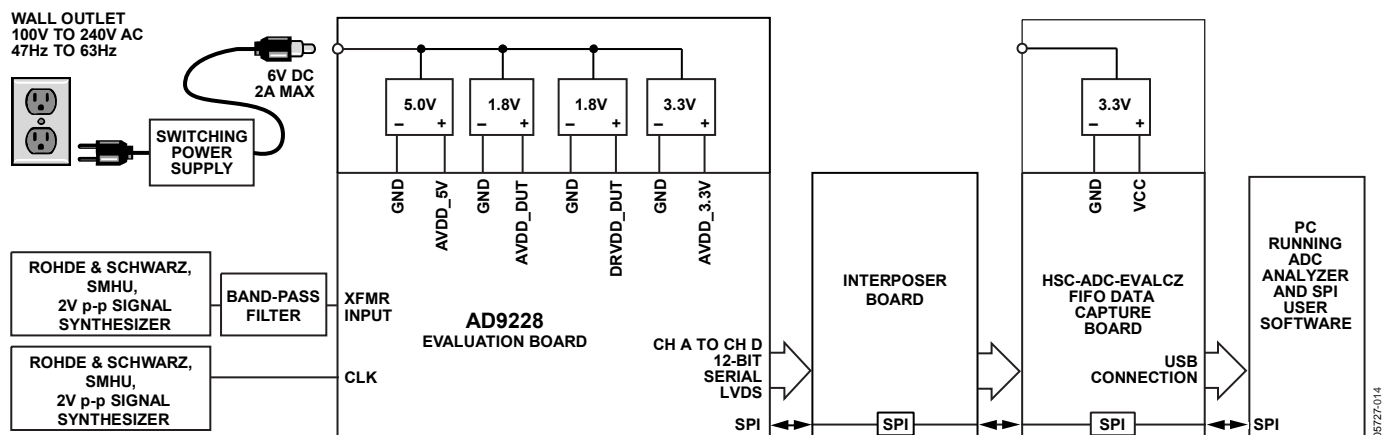
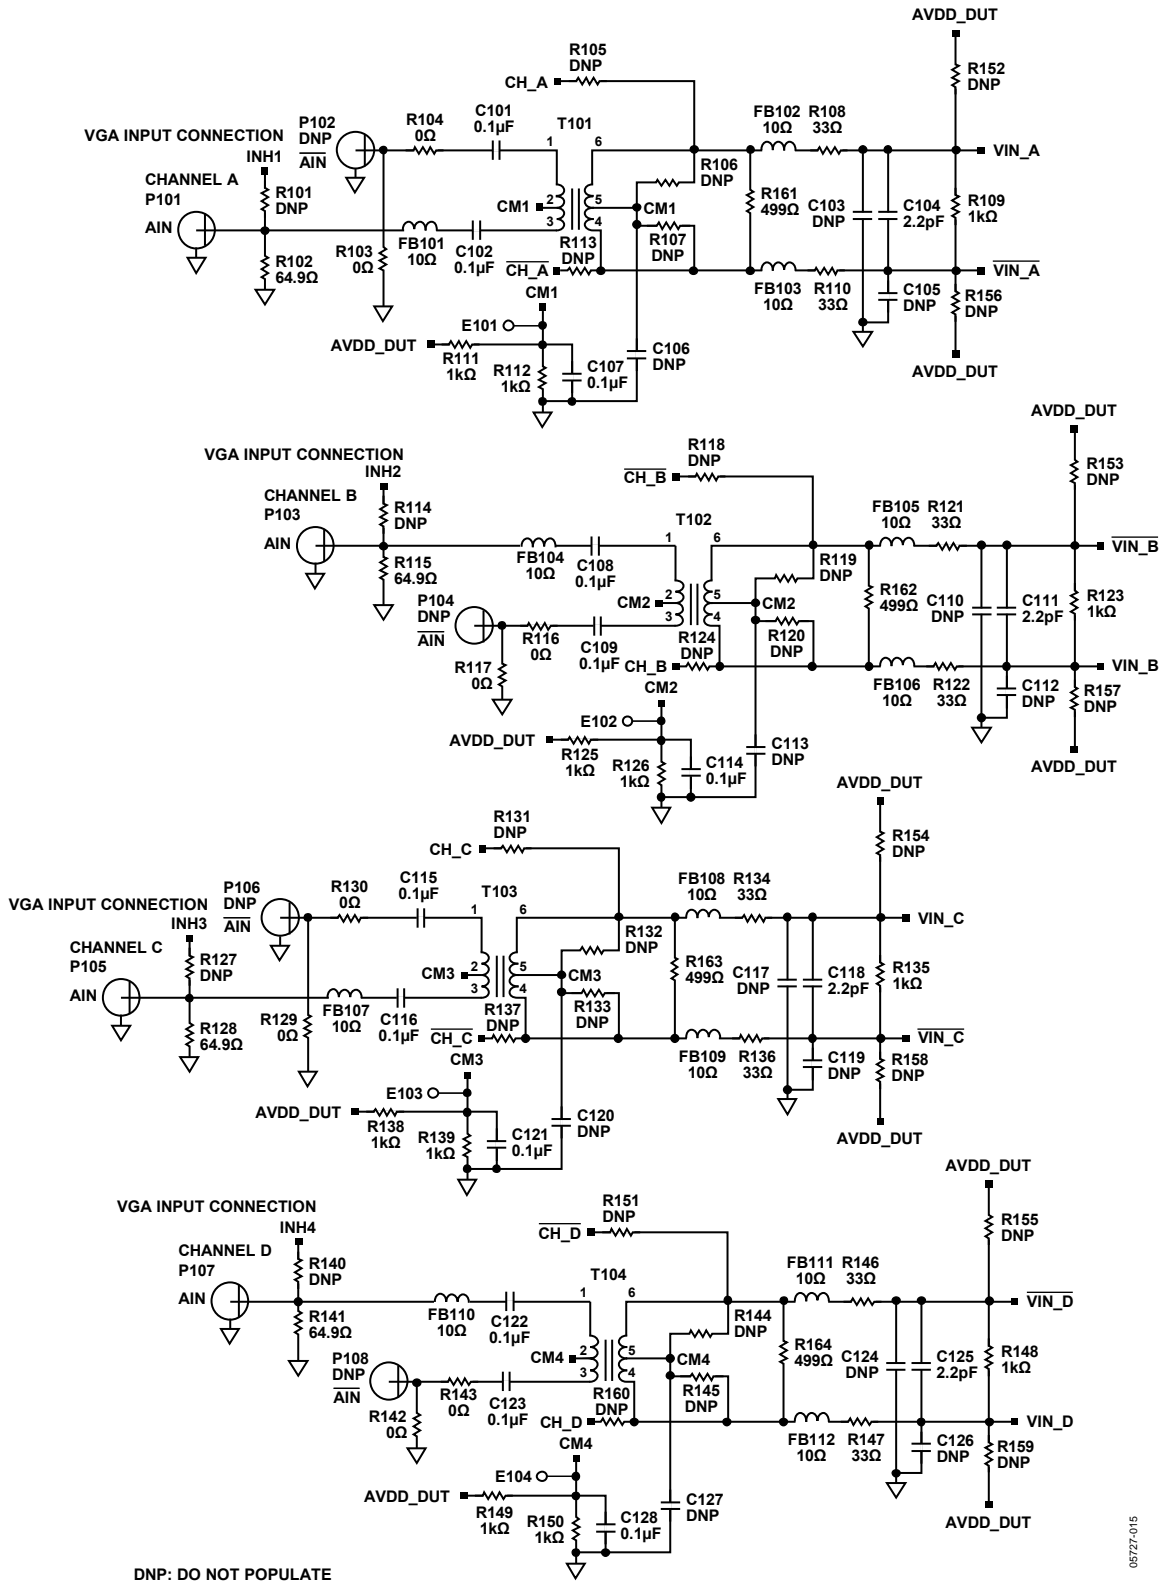

Figure 71. Evaluation Board Connection
Figure 73. Evaluation Board Schematic, DUT Analog Inputs
The AD9228 evaluation board provides all of the support circuitry required to operate the ADC in its various modes and configurations. The converter can be driven differentially using a transformer (default) or an AD8332 driver. The ADC can also be driven in a single-ended fashion. Separate power pins are provided to isolate the DUT from the drive circuitry of the AD8332. Each input configuration can be selected by changing the connection of various jumpers (see Figure 73 to Figure 77). Figure 71 shows the typical bench characterization setup used to evaluate the ac performance of the AD9228. It is critical that the signal sources used for the analog input and clock have very low phase noise ( $<1$  ps rms jitter) to realize the optimum performance of the converter. Proper filtering of the analog input signal to remove harmonics and lower the integrated or broadband noise at the input is also necessary to achieve the specified noise performance.
See Figure 73 to Figure 81 for the complete schematics and layout diagrams demonstrating the routing and grounding techniques that should be applied at the system level.
- **D + x, D - x:** If an alternative data capture method to the setup shown in Figure 73 is used, optional receiver terminations, R206 to R211, can be installed next to the high speed back-plane connector.